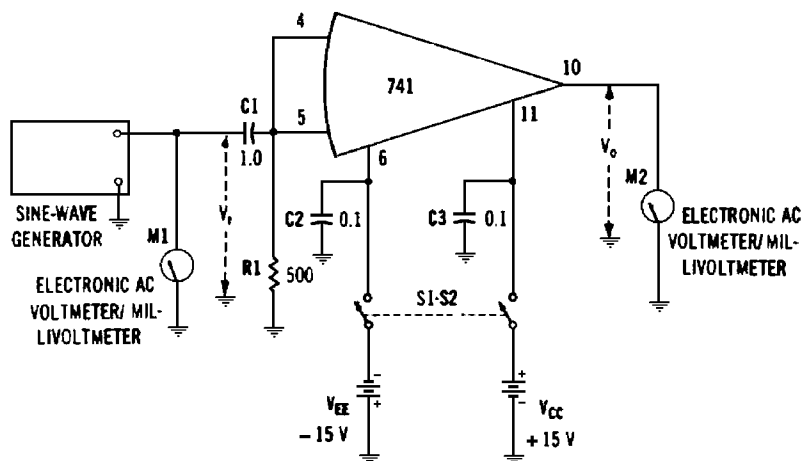

Fig. 2-22 Common-mode rejection.
### Required Equipment (Fig. 2-22)
1. With switch S1-S2 open and the generator off (with its output attenuator set to zero), set up the test circuit as shown in Fig. 2-22.